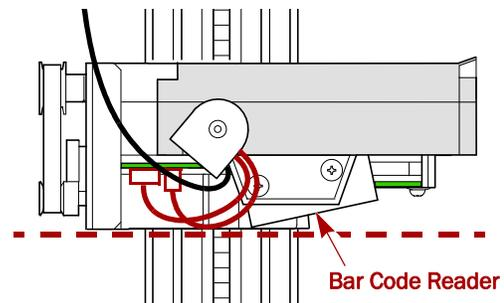

Figure 16. Flex Cable Must NOT Extend Beyond Reader
5. Pull gently on the cables between the clamp and the spooler until the **cable loops** are flush with the bar code reader (Figure 16 & Figure 22).
- The cables at the shuttle should not extend past the edge of the bar code reader (Figure 16 on page 5).